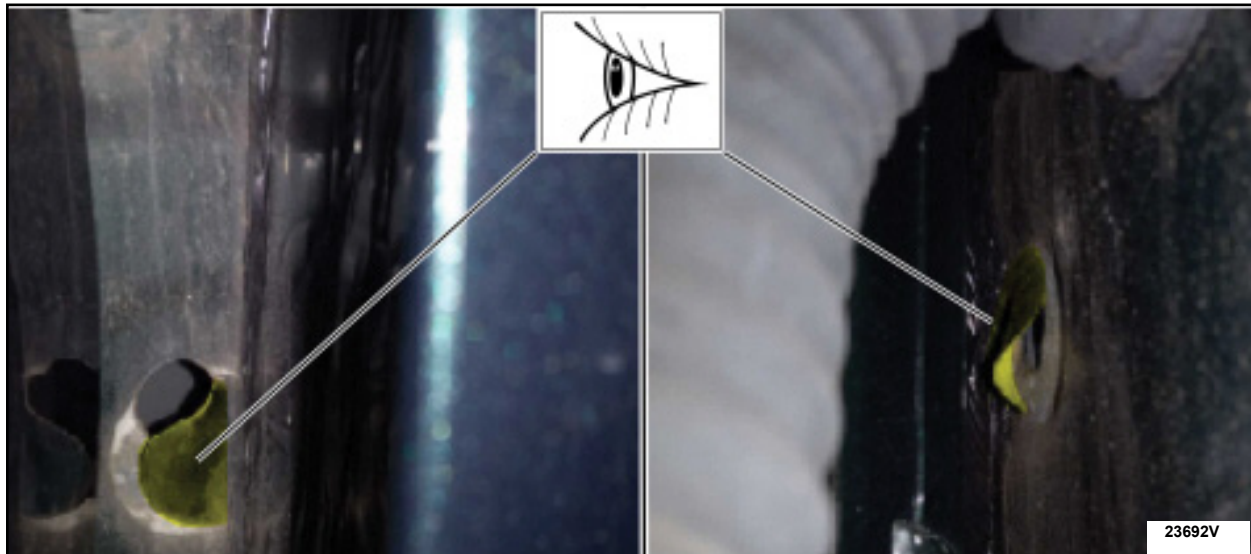

FIGURE 2
4. On both sides, inspect and record the condition (complete 360-degree adhesion to the sheet metal, loose and/or missing) of the A-pillar body sticker seal. See Figure 2.